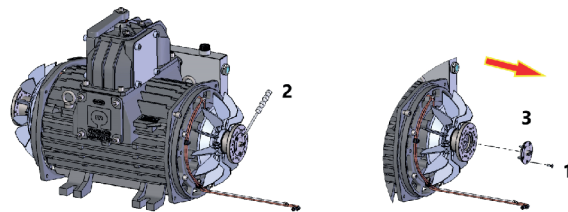

Fig. H.18 - Phase 0050
- Remove nr. 5 screws M5x16 (**pos.1 Fig. H.18**) (Allen key 6).
- Remove the oil pump drive flange (**pos.3 Fig. H.18**), if necessary, use a screwdriver to pry behind the flange stop. (**pos.2 Fig. H.18**).